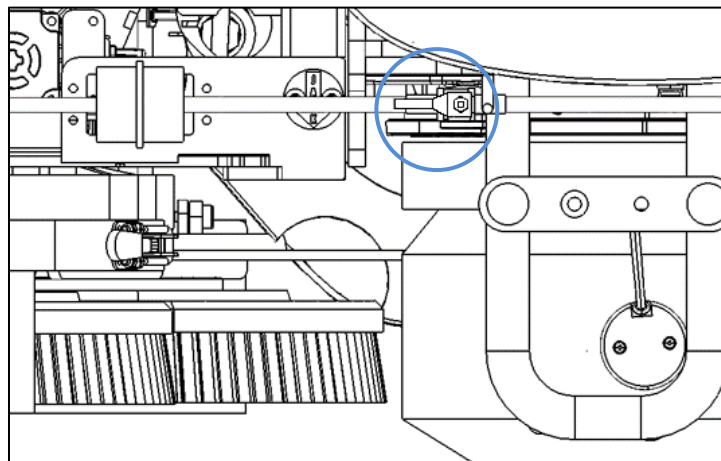

Fig. 4
7. Open the clean tank valve (Fig. 4).